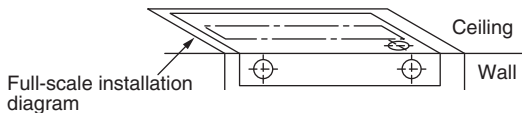

Fig. 3-16
- Place the full-scale diagram (supplied) on the ceiling at the location where you want to install the indoor unit. Use a pencil to mark the drill holes (Fig. 3-16).